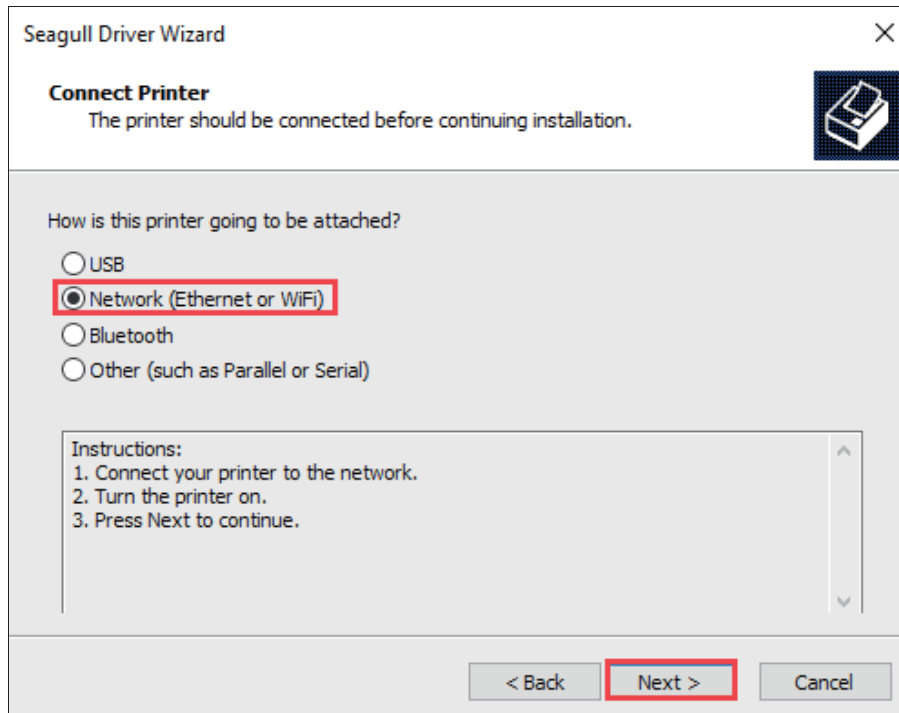

Figure 2-35 Connect Printer Screen
3. On the “Connect Printer” screen, select “Network (Ethernet or WiFi)”, and then click “Next”, as shown in Figure 2-35.